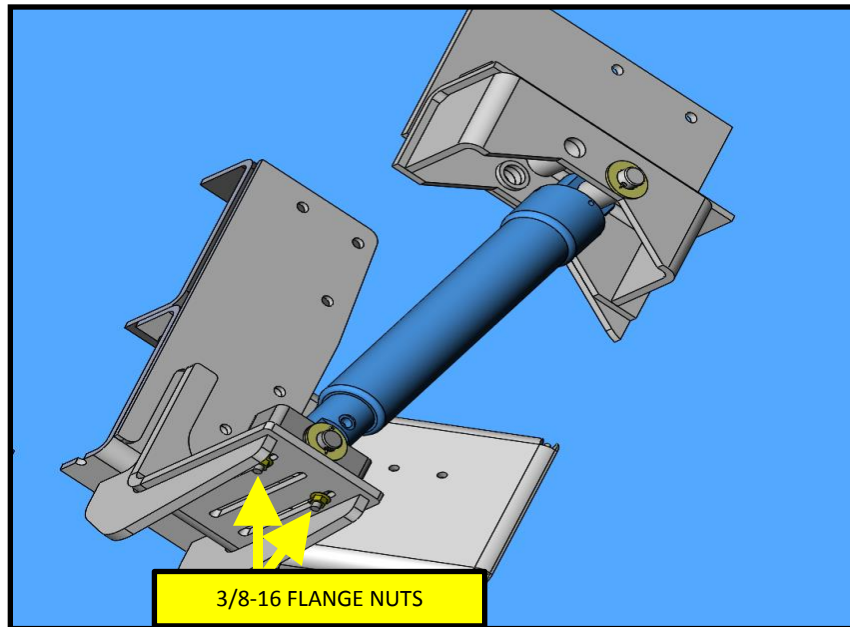

FIG. 14-1
23. Loosen, but do not remove the 3/8-16 flange nuts under the lower mount foot. Refer to FIG 14-1.